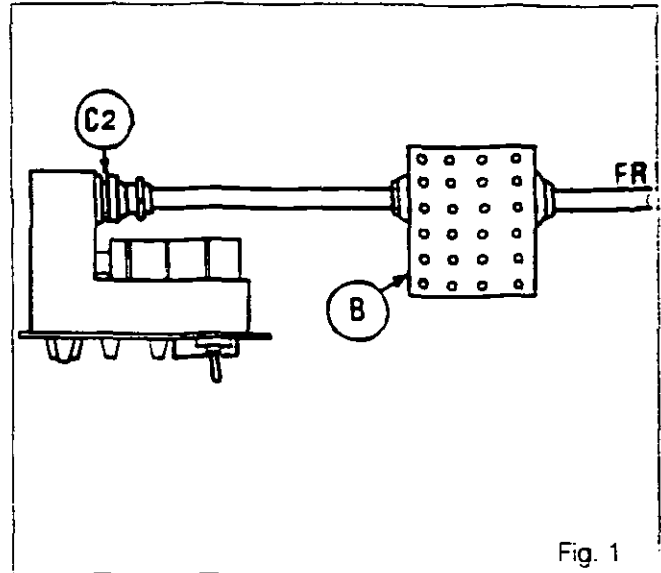

Fig. 1
The tester (B) is connected to the round 24 pin connector (C2) or the harness (FR), or both (Fig. 1).
Tester (B) connected between control console and tractor harness (FR) as shown Fig. 1.